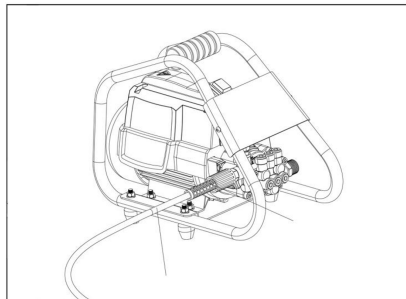

Figure 6: How to connect the High Pressure Hose to the pump outlet.
Connect the other end of the High Pressure Hose (4) to the High Pressure Pump Outlet (12) by pushing together and screwing in the collar as shown in Figure 6.